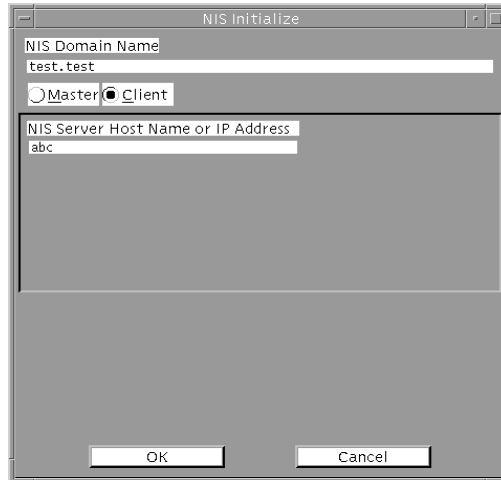

Figure 39. NIS Initialize (Client-Complete) Window
STEP 5: Enter the NIS server host name or IP address. In the NIS Server Host Name or IP Address field of the NIS Initialize window, enter the name or IP address of the machine designated as the NIS server (Figure 39). Click on the OK button.